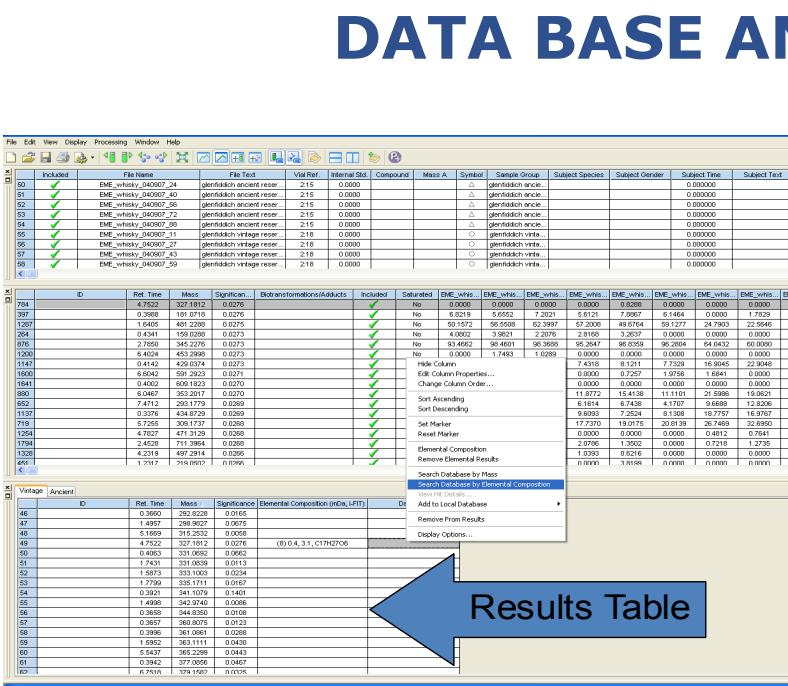

Fig 8: Screen shot showing the UPLC/TOF MS results table and the option to database search
- Within the results table (fig. 8) the elemental composition of the EMRTs can be calculated. Both accurate mass and elemental composition can be used in a database search to enable identification of the compounds.